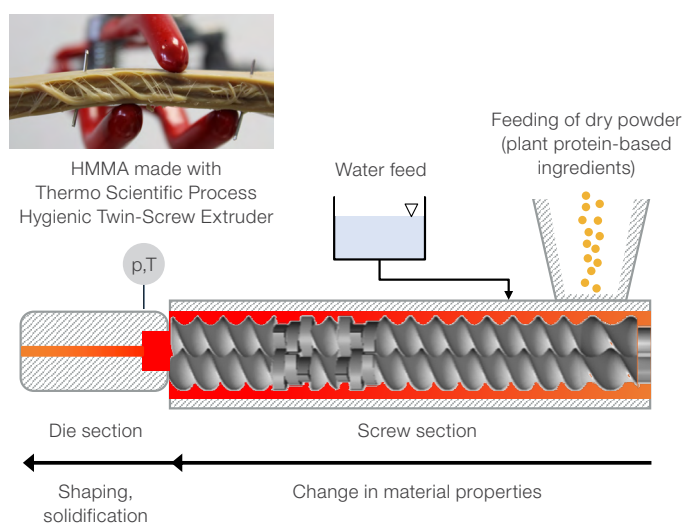
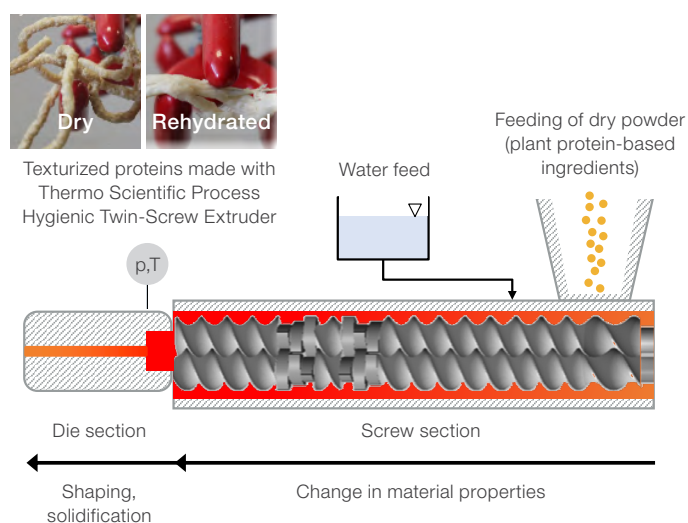

Figure 1: Process set-up for High Moisture Meat Analog (HMMA). Click here to watch the extrusion process for HMMA in action.
Figure 2: Process set-up for texturized vegetable protein. Click here to watch the extrusion process for this application in action.
**Texturized protein and HMMA products can be manufactured using the same twin-screw extruder** despite their different product characteristics. As shown in Figure 1 and Figure 2, the different product types can be achieved simply by varying the die type and the water content used for the particular production process.
The twin-screw extrusion process for HMMA is typically operated at water contents between 40 and 80% with a cooled slit die attached to the extruder (Figure 1). Typical extrusion temperatures range between 100 and 180 °C, while the temperature of the cooled slit die must be kept at < 100 °C to avoid structural distortion due to the evaporation of water. The formation of the characteristic product texture is determined by shear-induced structuring of plant protein formulations in the cooled slit die. The flow characteristics in the die determine the final product texture.
The twin-screw extrusion process for TVP is typically operated at water contents between 15 and 30% with a strand die nozzle attached to the extruder (Figure 2). Extrusion temperatures are similar to HMMA processing, while the temperature in the die nozzle is kept at  $T > 100$  °C to promote the evaporation of water. The formation of the characteristic product texture of texturized proteins is determined by pressure drop at the die exit leading to the evaporation of water and expansion of the product.